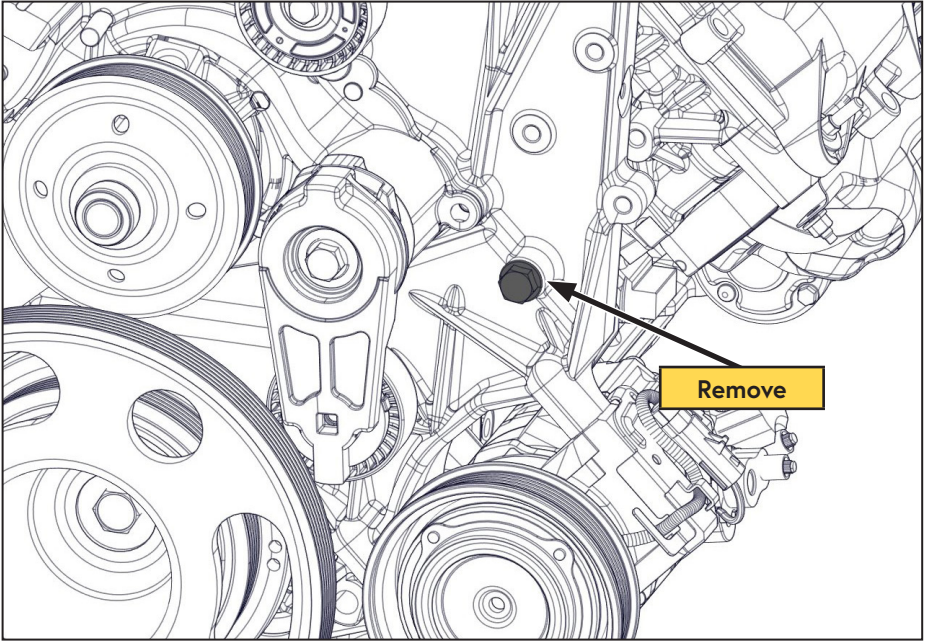

Figure 15 — Remove fastener
- ☐ Remove and discard the indicated OEM M8 fastener (Figure 15).